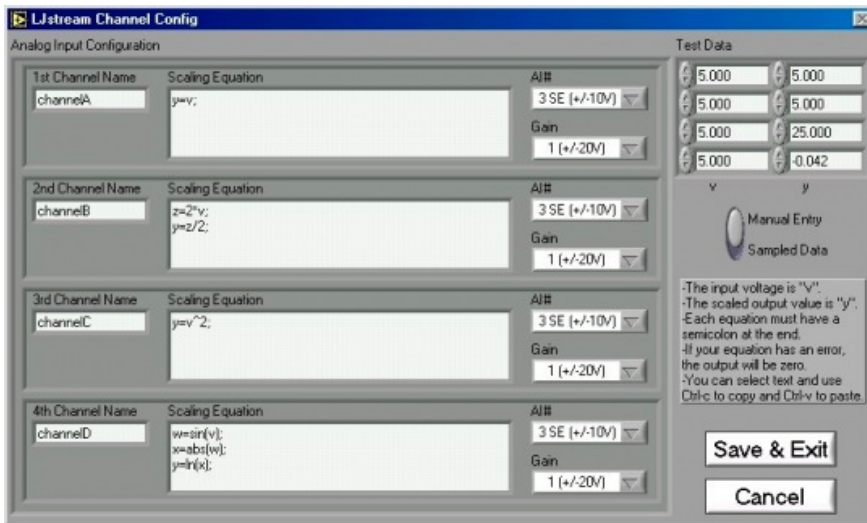

Figure 3.6-2. LJstream Channel Configuration
- **Configure Channels:** Click this button to bring up the channel configuration window shown in Figure 3.6-2.
Figure 3.6-2 shows the LJstream channel configuration window. Here you can select analog inputs and gains and enter scaling equations. Use “Test Data” to see the effect of the scaling equations (“v” column is the measured voltage and the “y” column is the output of the scaling equations). “Manual/Sampled” determines where the “Test Data” in the “v” column originates.